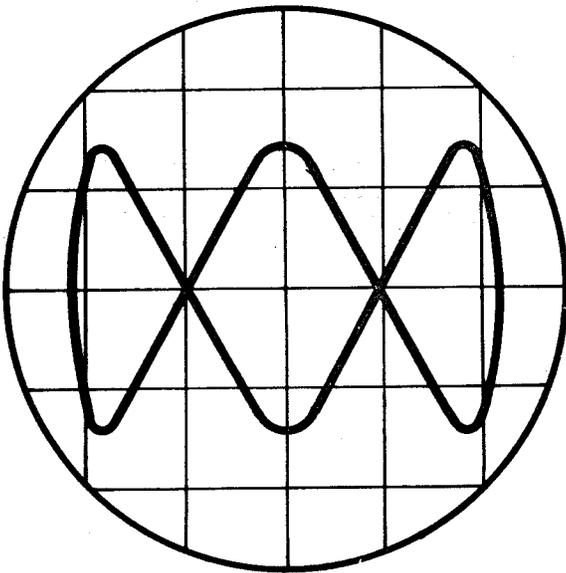

Figure 4-6
Connect the two voltages for comparison to the oscilloscope, one on the horizontal input (AC) and one on the vertical input (AC). Adjust the HOR. ATTEN., S102, and VERT. ATTEN., S101, to the highest attenuation position that will give suitable deflection in both directions. Adjust the HOR. GAIN and VERT. GAIN controls until the pattern is of the desired size. With the above controls so adjusted, as the two frequencies become exact ratios of one another definite patterns, as illustrated in Figures 4-6 and 4-7, will appear on the screen.